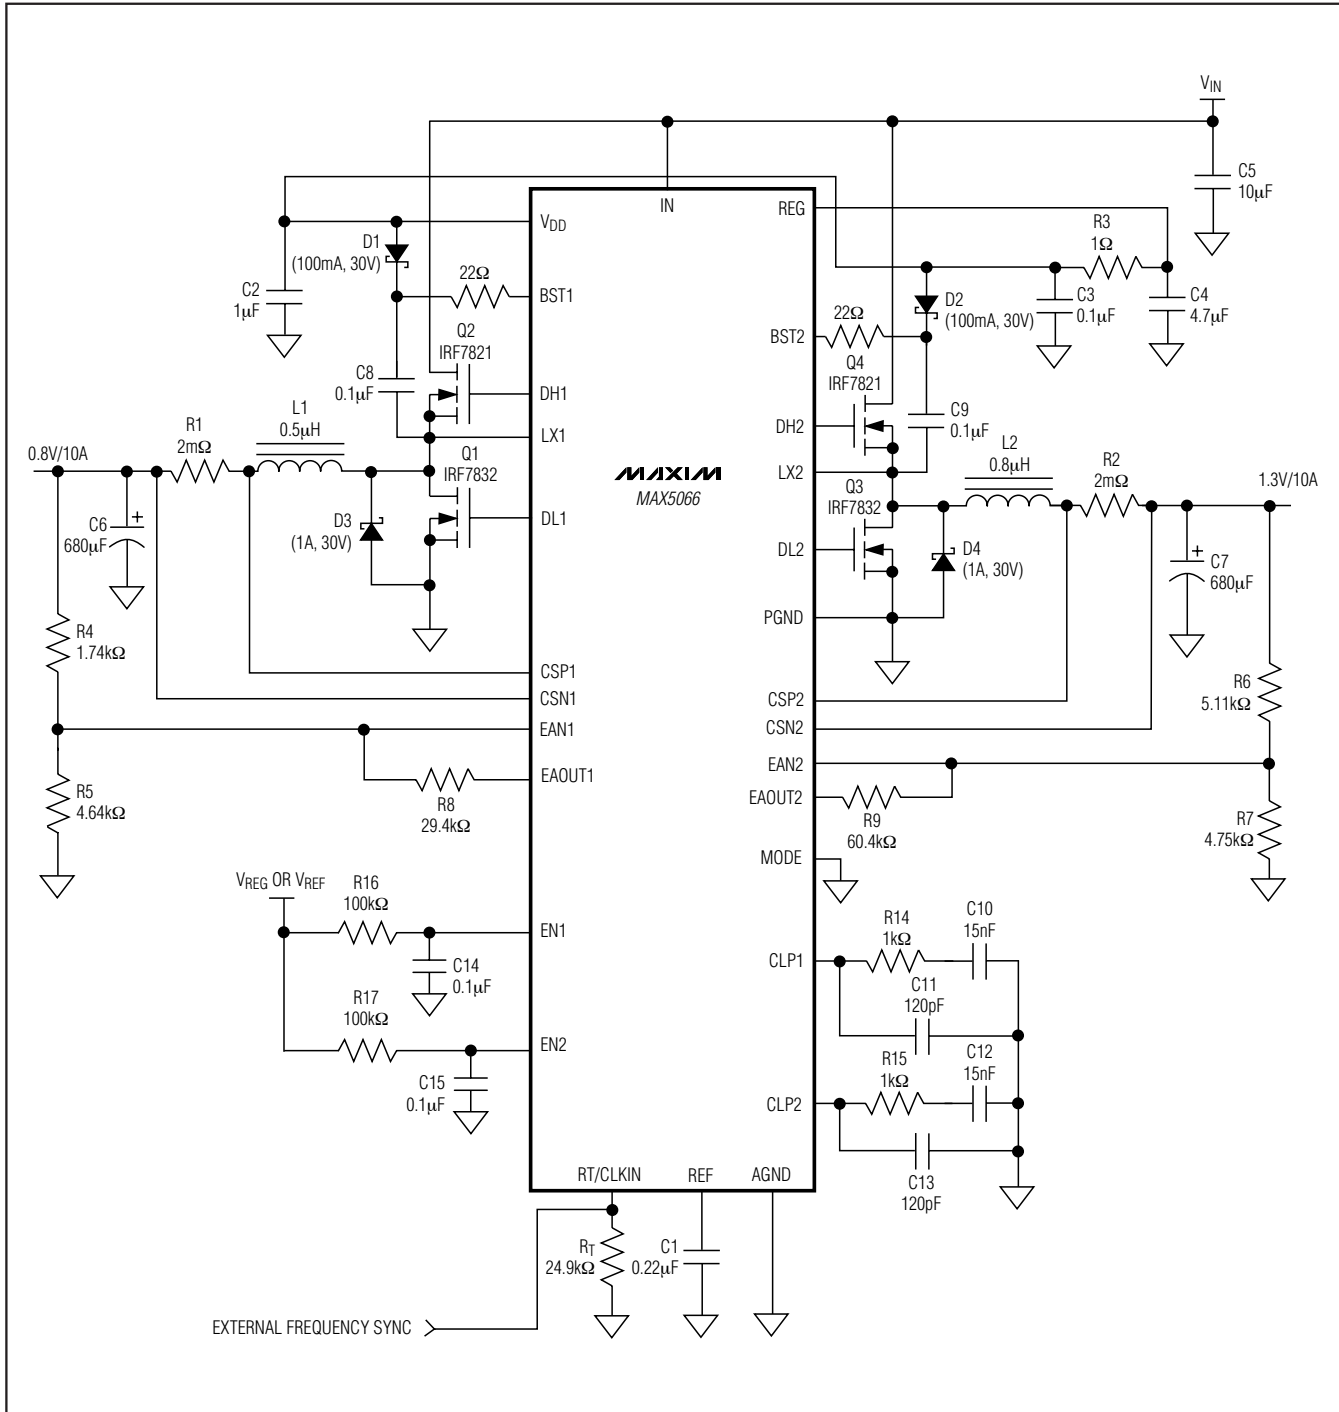

Figure 6. Dual-Output Buck Regulator
where I_{IN} is the quiescent supply current into IN (4mA, typ), Q_{GQ1} , Q_{GQ2} , Q_{GQ3} , Q_{GQ4} are the total gate charges of MOSFETs Q1 through Q4 at $V_{GS} = 5V$ (see Figure 6), and f_{SW} is the switching frequency of each individual phase.
diodes D1 and D2 (see Figure 6). Connect a 0.1μF ceramic capacitor between BST_ and LX_.
Minimize the trace inductance from BST_ and VDD to rectifier diodes, D1 and D2, and from BST_ and LX_ to the boost capacitors, C8 and C9 (see Figure 6). This is accomplished by using short, wide trace lengths.
The compensation network at the current-error amplifiers (CLP1 and CLP2) provides an inherent soft-start of the output voltage. It includes (R14 and C10) in parallel with C11 at CLP1 and (R15 and C12) in parallel with C13 at CLP2 (see Figure 6). The voltage at the current-error amplifier output limits the maximum current available to charge the output capacitors. The capacitor at CLP_ in conjunction with the finite output-drive current of the current-error amplifier yields a finite rise time for the output current and thus the output voltage.
An internal oscillator generates the 180° out-of-phase clock signals required for both PWM modulators. The oscillator also generates the 2Vp-p voltage ramps necessary for the PWM comparators. The oscillator frequency can be set from 200kHz to 2MHz by an external resistor (RT) connected from RT/CLKIN to AGND (see Figure 6). The equation below shows the relationship between RT and the switching frequency:
output, voltage-regulating applications where the duty cycle is less than 50%, choose high-side MOSFETs (Q2 and Q4, Figure 6) with a moderate $R_{DS(ON)}$ and a very low gate charge. Choose low-side MOSFETs (Q1 and Q3, Figure 6) with very low $R_{DS(ON)}$ and moderate gate charge. The driver block also includes a logic circuit that provides an adaptive nonoverlap time (30ns typical) to
where I_{MAX} is the full load current of the regulator. V_{OUT} is the output voltage of the same regulator and C_{IN} is C5 in Figure 6. The ESR of the input capacitors wastes power from the input and heats up the capacitor. Reducing the ESR is important to maintain a high overall efficiency and in reducing the heating of the capacitors.
where I_{LOAD_STEP} is the step in load current and $t_{RESPONSE}$ is the response time of the controller. Controller response time depends on the control-loop bandwidth. C_{OUT} is C6 and C7 in Figure 6.
where ΔV_{OUT} is the allowable drop in voltage from no load to full load. R_F is R8 and R9, R1 is R4 and R6, R2 is R5 and R7 in Figure 6.
For stability of the current loop, the amplified inductor-current downslope at the negative input of the PWM comparator (CPWM1 and CPWM2) must not exceed the ramp slope at the comparator's positive input. This puts an upper limit on the current-error amplifier gain at the switching frequency. The inductor current downslope is given by V_{OUT}/L where L is the value of the inductor (L1 and L2 in Figure 6) and V_{OUT} is the output voltage. The amplified inductor current downslope at the negative input of the PWM comparator is given by:
where R_{SENSE} is the current-sense resistor (R1 and R2 in Figure 6) and g_M × R_{CF} is the gain of the current-error amplifier (CEA₁) at the switching frequency. The slope of the ramp at the positive input of the PWM comparator is 2V × f_{SW}. Use the following equation to calculate the maximum value of R_{CF} (R14 or R15 in Figure 6).
where C_{CF} is C10 and C12 in Figure 6.
where C_{CFF} is C11 and C13 in Figure 6.